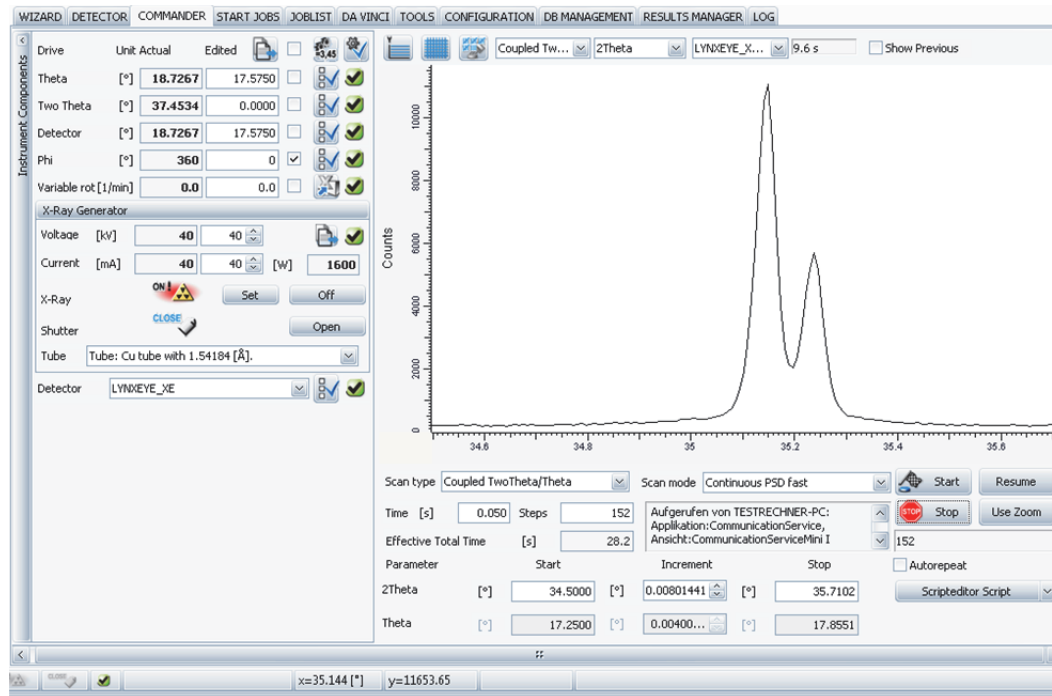

Figure 6.31: Position check of the 'Resolution' and 'Offset' determination
12. Perform a locked coupled scan using $0.05\text{s}/0.008^\circ$ from 34.5 to 35.7° in 2θ to check the result of the spatial calibration, see Figure 6.31